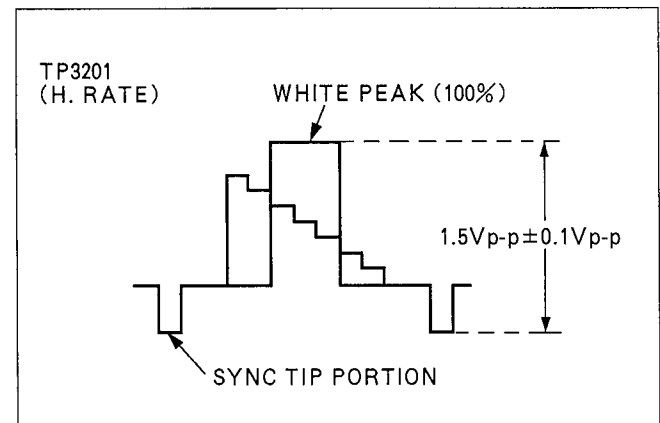

Figure E6
SPEC.	1.5Vp-p \pm 0.1Vp-p (FIG. E6)
2. Adjust VR3003 so that the white peak (100%) level becomes maximum and the beat on the sync tip portion of the color bar signal becomes minimum as shown in Figure E6.
3. Adjust VR3006 so that the level of color bar signal becomes 1.5Vp-p \pm 0.1Vp-p as shown in Figure E6.